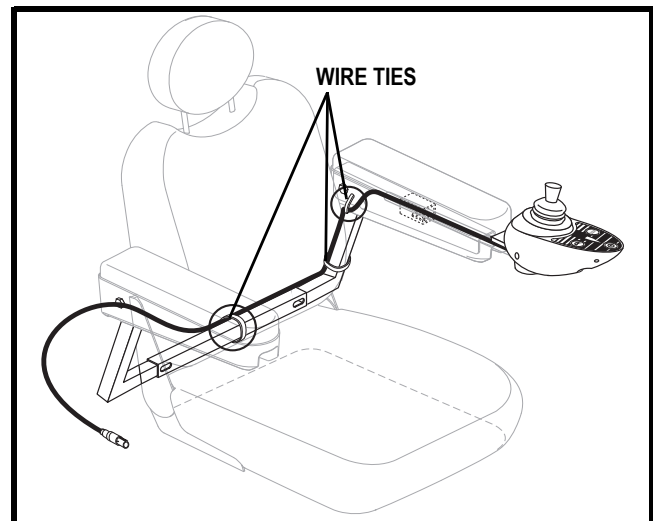

Figure 13. Controller Harness Routing on a Contour Seat
5. Route the controller harness so that it cannot be pinched in the seat hinge and secure the controller harness with wire ties. See figure 13.
16. Secure the controller harness to the armrest receiver with one or more wire ties. See figure 13.